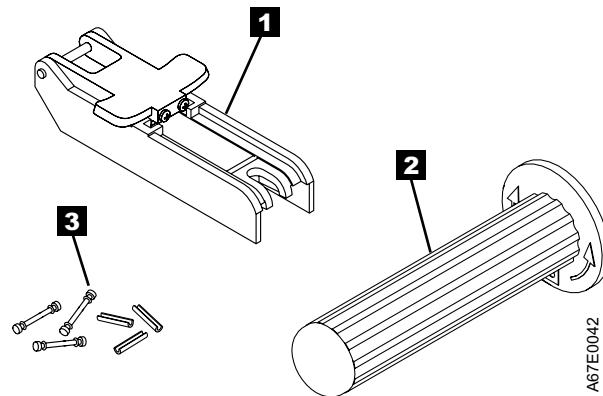

Figure 385. Leader Pin Reattachment Kit
- **Leader pin attach tool** (see **1** in Figure 385). A plastic brace that holds the cartridge door open.
- **Cartridge manual rewind tool** (see **2** in Figure 385). A device that fits into the cartridge's hub and lets you wind the tape into and out of the cartridge.
- **Pin supplies** (see **3** in Figure 385). Leader pins and C-clips.